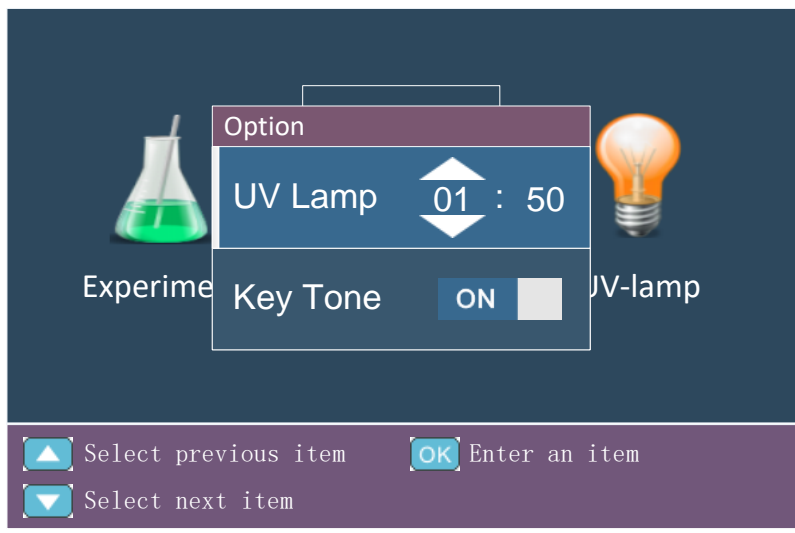

Figure 4-8 Instrument Setting Interface
User could press  or  to select the  **Option** > icon on the standby interface, and then press  to enter the instrument setting interface, as shown in figure 4-8.
- ▶ Press  or  to select the <  **Option** > icon. Then press  to enter the instrument setting interface as shown in the figure 4-8.
- 1) Press  or  to select the <  **Option** > icon. Then press  to enter the instrument setting interface as shown in the figure 4-8.